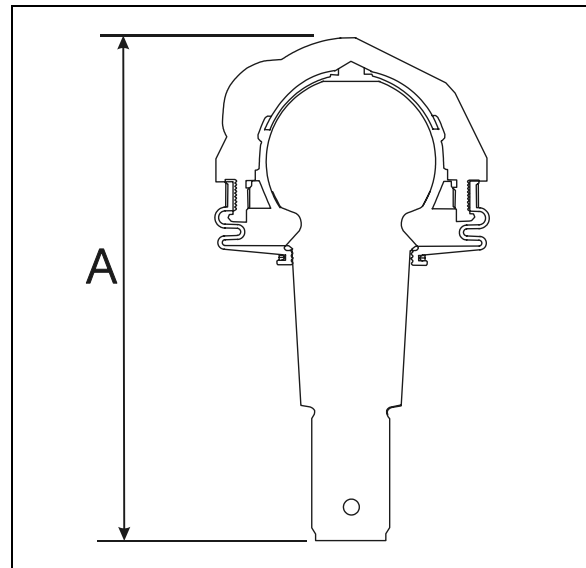

FIGURE 17: UPPER A-ARM CENTRAL BALL JOINT 16116
- Using a caliper, measure dimension A on figure 17.